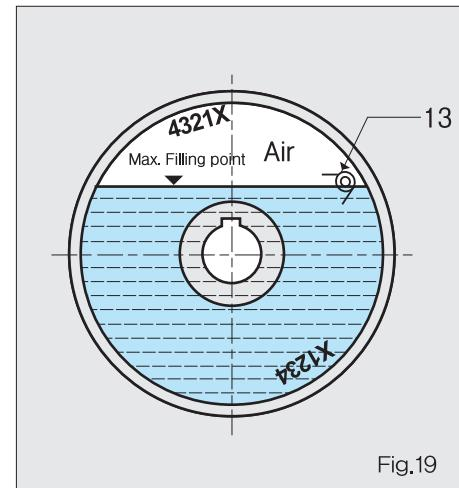

Fig.19
- ① Position the fluid coupling axis horizontally, turn it until the X mark (respectively 2 or 3 according to the fluid coupling type) casted into the housing gets at the top vertical (maximum oil fill), so that the oil plug is inclined as shown in Fig.19
- ② Fill with oil until it overflows out of the filler hole.
- ③ Screw the cap and make sure no leakages occurred : otherwise use thread sealant on filler plug threads.
- ④ The fillings marked X-1-2-3-4 may be chosen by the operators to meet the best performance in terms of start-up and steady running condition.
- ⑤ For normal operating conditions, use only ISO HM 32(or equivalent SAE 10W). At low ambient temperatures(near 0°C), it is recommended to use ISO FD 10(or equivalent SAE 5W) oil. For temperatures below - 10°C, ask NARA.
- ⑥ For vertical mounted applications, the couplings recommended oil fills are described in Tab.22,23.